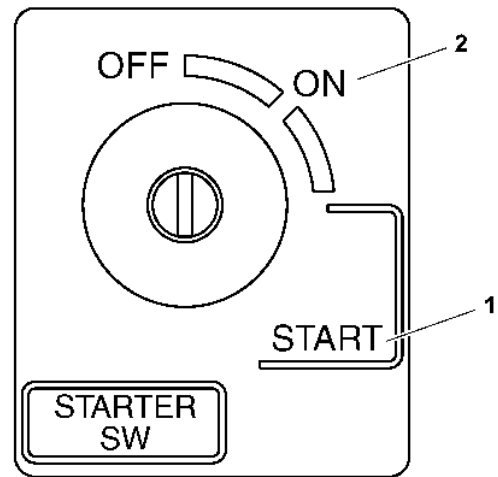

Figure 59
6. Turn the key clockwise to the START position (**Figure 59, (1)**). Release the key as soon as the engine starts. It will return to the ON position (**Figure 59, (2)**).